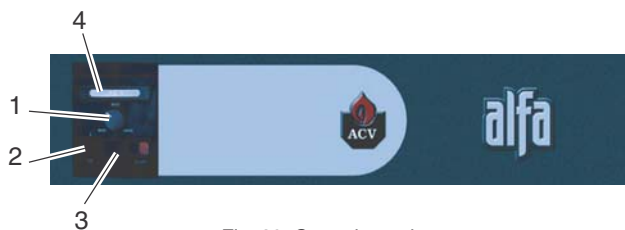

Fig. 20: Control panel
7.1.1 GETTING TO KNOW THE CONTROL PANEL (Fig. 20)
(item 2, Fig. 20)
1 - Control thermostat 60° to 90° C (item 1, Fig. 20).
2 - ON/OFF switch (item 2, Fig. 20).
3 - Summer/winter selector (item 3, Fig. 20)
4 - Thermometer (item 4, Fig. 20)